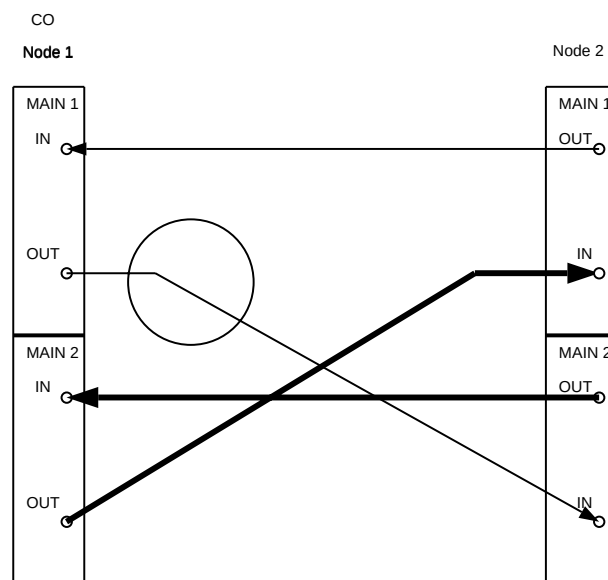

Figure 8. DDM-2000 OC-3 Point-to-Point to Ring Upgrade
18. Remove optical splitter from Node 1 **MAIN 1 OUT** and Node 2 **MAIN 2(P) IN**. Connect optical fiber from Node 1 **MAIN 1 OUT** to Node 2 **MAIN 2(P) IN**. (See Figure 8.)